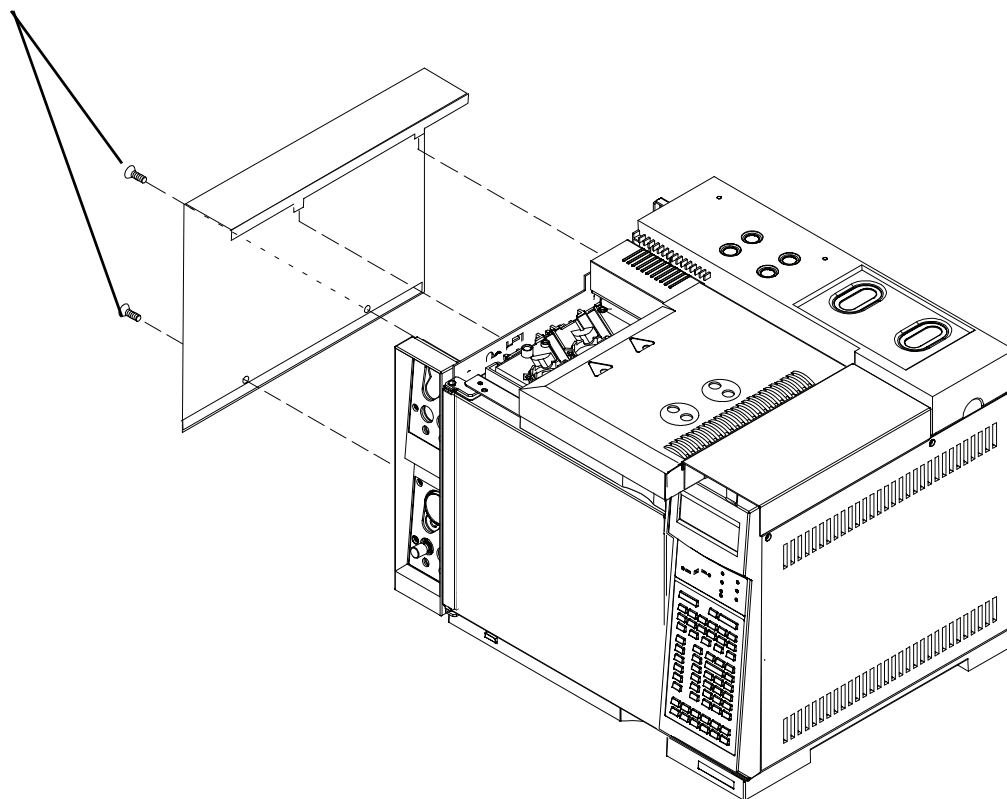

Figure 6 Installing the side carrier cover
- 5 Attach the side carrier cover to the flow carrier assembly as shown in Figure 6.